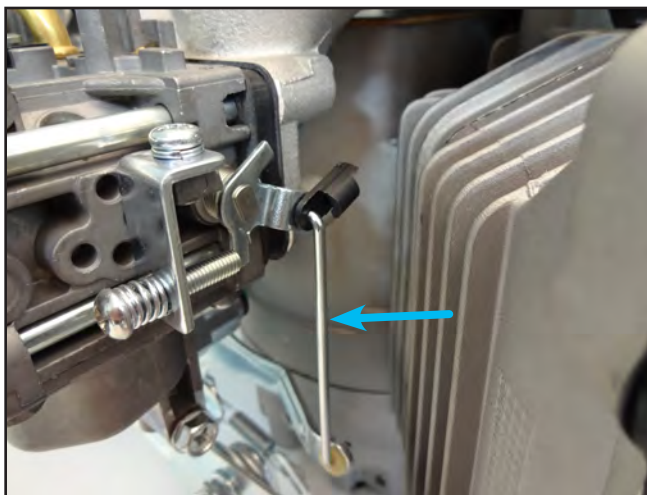

Figure 39
5. Install throttle link to throttle pivot on the control plate, then insert into the throttle shaft on the carburetor, lock by rotating the clip over link (Figure 39).